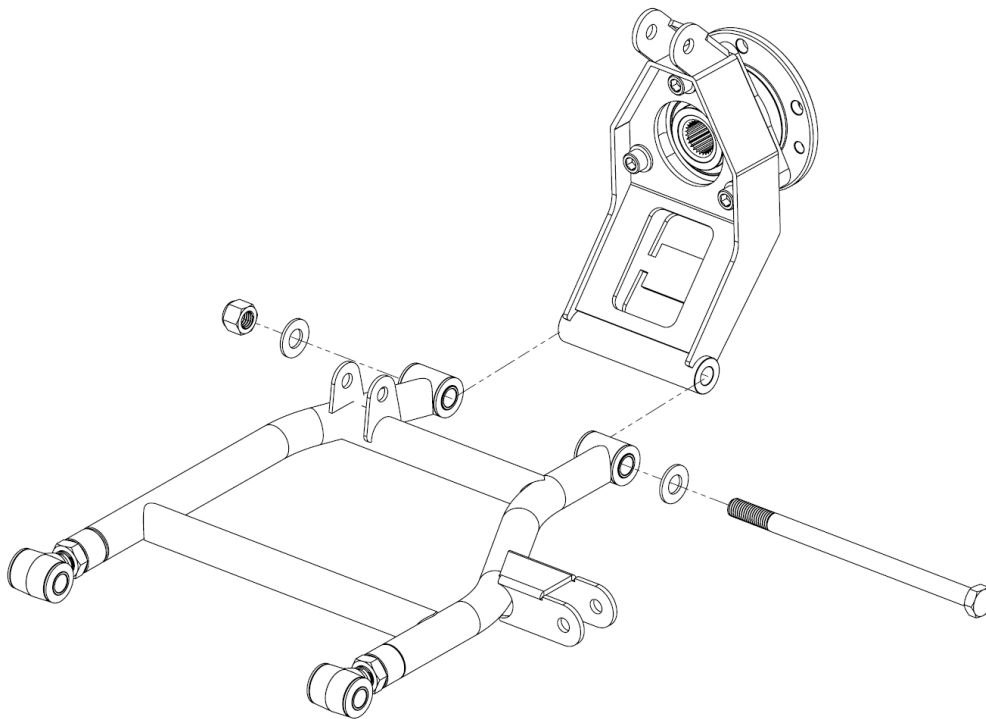

Figure 4. Assemble the upright to the lower arm using the 5/8 X 10-1/2" bolt and hardware.
- 6) Assemble the uprights to the lower control arms using the supplied 5/8" X 10 ½" long bolts. A washer should be used on the outside of the bushings as shown in Figure 4.